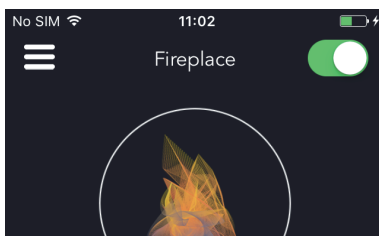

Fig. 7 Connected to Fireplace
8. Make sure the right corner button is “ON” (Fig.7)